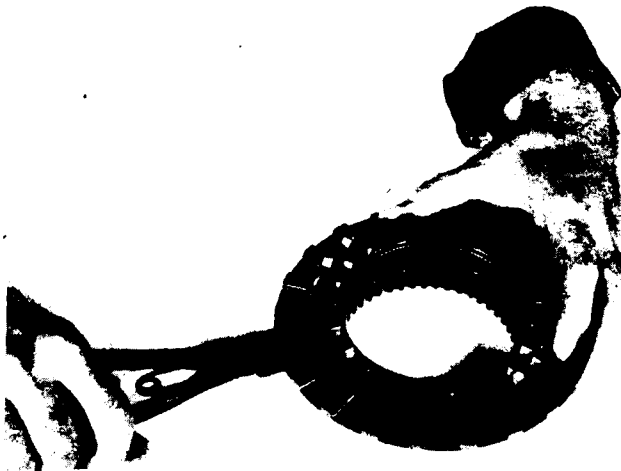

FIG. 76
- Remove holdout ring, using expanding snap ring pliers (Fig. 76).